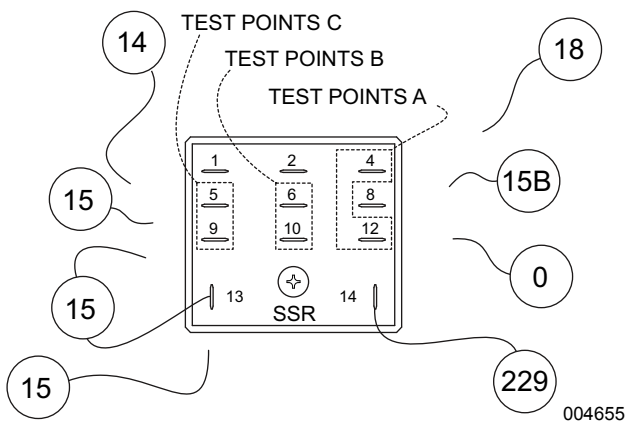

Figure 4-41. Start Stop Relay (SSR) Not Energized
7. See **Figure 4-41**. Remove wire 0, wire 18, wire 15B, wire 15, and wire 14.